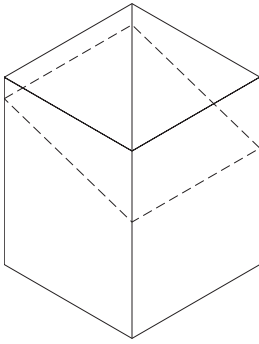

Figure 18
1. Mark a line on the side of the Cathedral Ceiling Support Box to correspond to the line of the roof pitch, as shown in *Figure 18*. Allow for the Support Box to protrude below the low side of the finished ceiling a minimum of 2 inches.